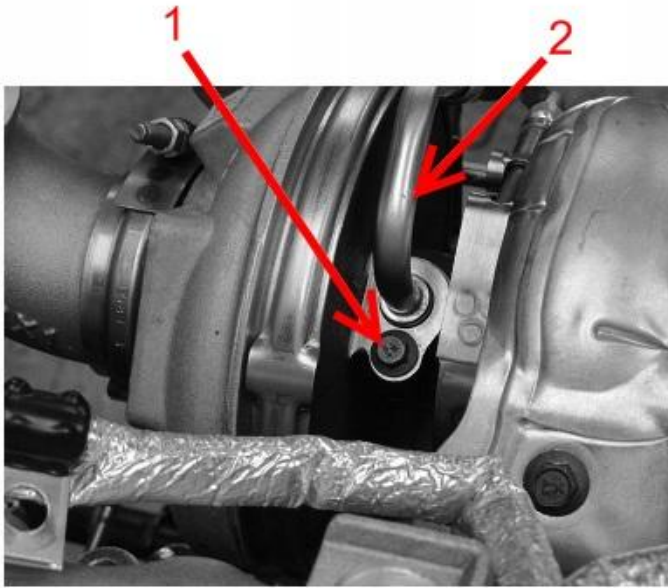

Figure 16: Turbo Oil Supply Tube
8. Connect new oil supply tube (Figure 16, Item 2) to HP turbocharger.
9. Install oil supply tube (Figure 16, Item 2) and secure with new M6 X 16 bolt (Figure 16, Item 1).